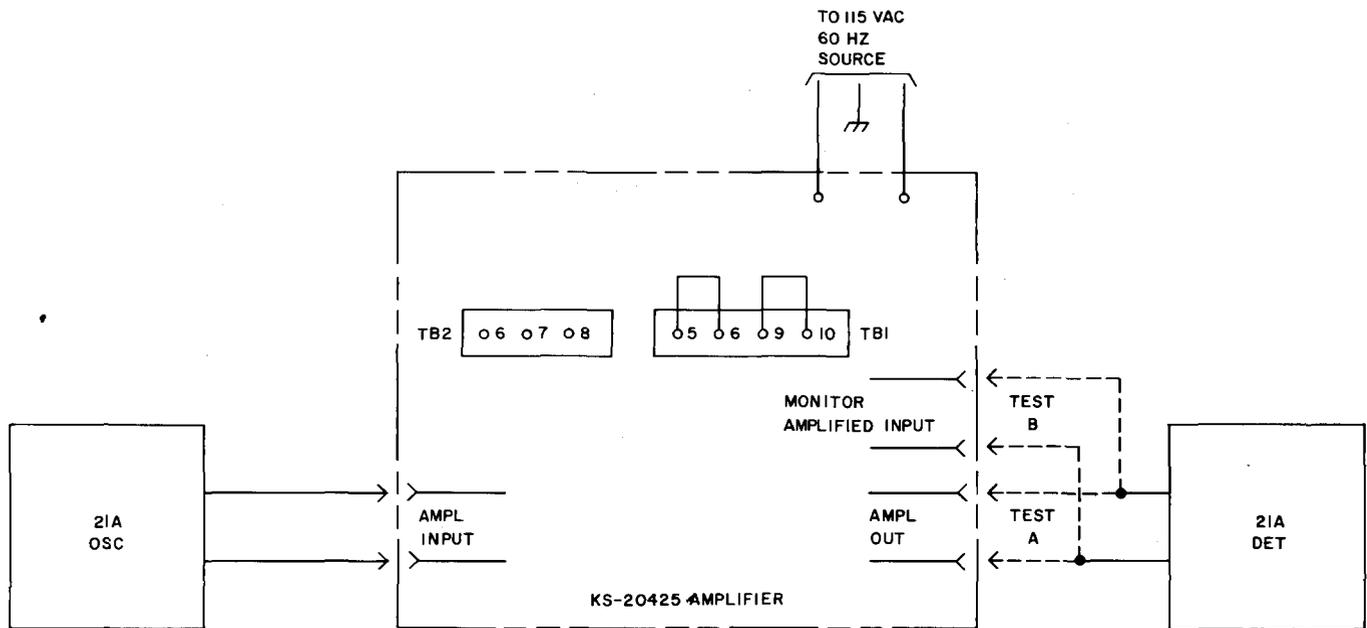

Fig. 1—Setup for Gain-Frequency Test for KS-20425 Amplifier System
**1.02** This section is reissued to revise Fig. 1, 2, and 3 and to add information covering the L2 amplifier.
- 1 Using the front panel jacks, connect the equipment as shown in Fig. 1 with the PWR switch of the amplifier turned OFF.